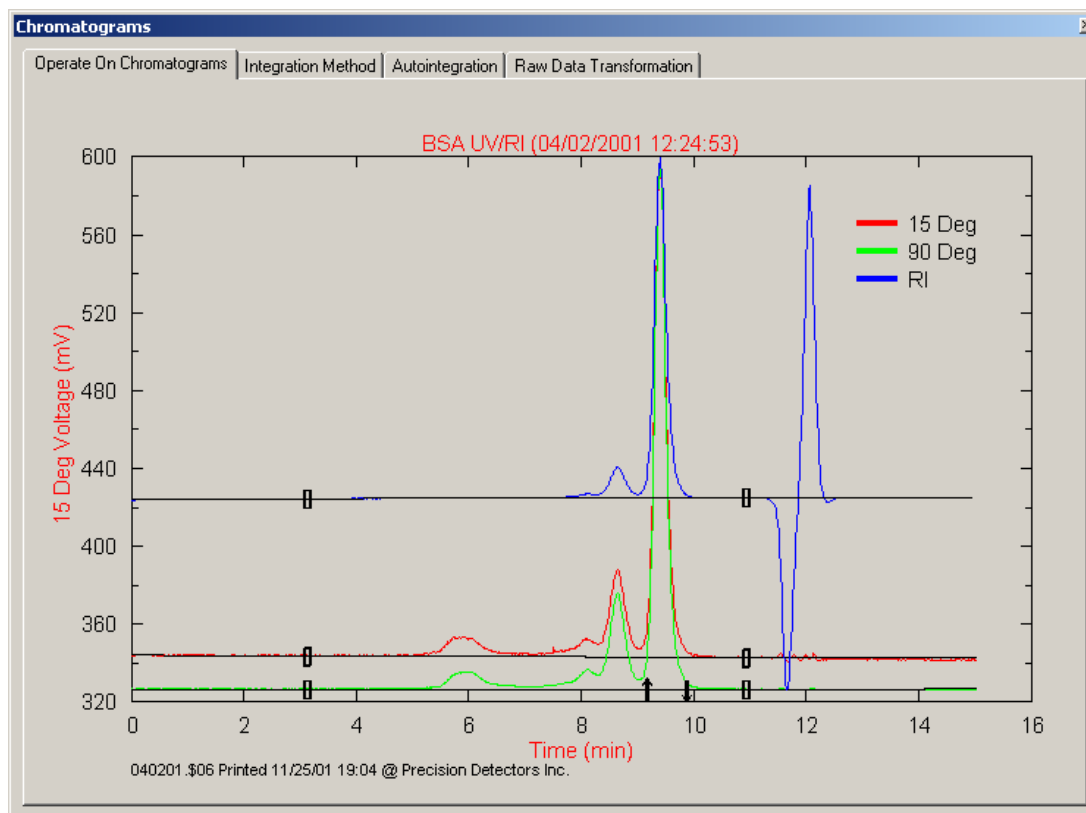

Figure 6-8: The Chromatograms Dialog Box - Operate on Chromatograms Tab
The baseline is used to indicate the “zero signal” level for the sample so that the area of the peak can be properly determined. The baseline is normally selected by defining two points in the chromatogram that are on a flat part of the trace (one before and one after the peak(s) of interest). The baseline is indicated on the chromatogram as a black line (e.g. see the line at 342 mV for the 90° trace in Figure 6-8).
- a) Open the *Operate on Chromatograms* tab of the *Chromatograms* dialog box (Figure 6-8).